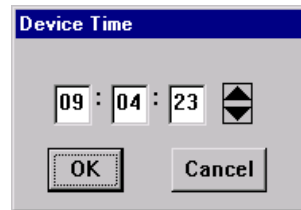

Figure 2-11. New Time Window
2. The Device Time change window, Figure 2-11, will appear.